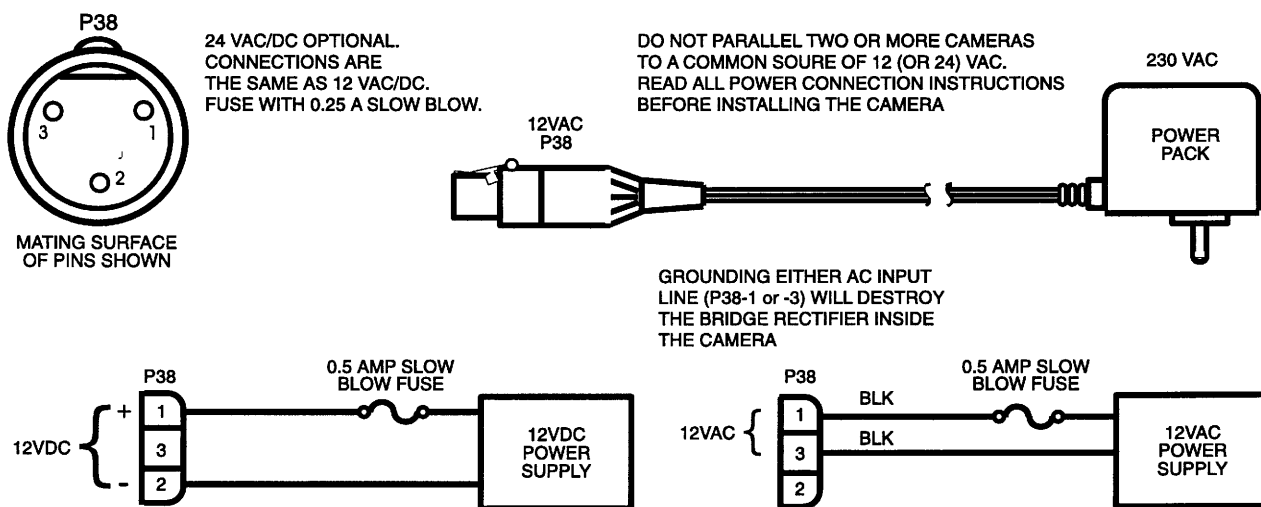

Fig. 4. Power Connections
The Camera requires either 12- or 24-V ac/dc input power, depending on the model. The Camera operates from 230-V 50-Hz ac power when used with the optional external power pack (fig. 4). If the Camera is to operate from a power supply other than the optional power pack, use a 0.5 amp slow-blow fuse (0.25 amp with the 24-volt version).
1. Power connections. The Camera requires 12- or, optionally, 24-Vac/dc input power. To operate the 12-volt version of the Camera from a 230-Vac 50-Hz power source, use the optional power pack (fig. 4). Or, if desired, use a power supply connected as shown in the figure. Do not ground either ac input line to the Camera rear panel. A ground will destroy the bridge rectifier.